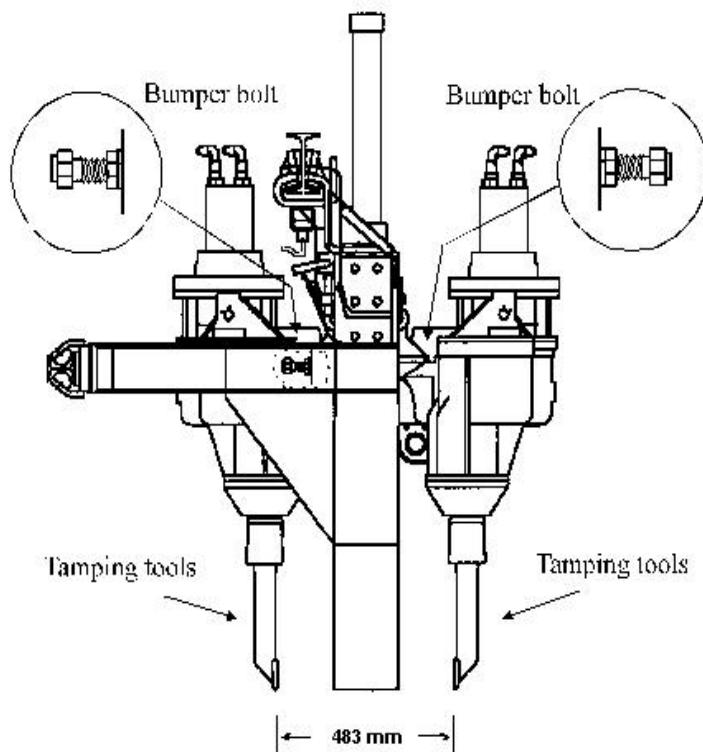

Figure 4-33
5. Place the **TRAVEL/WORK** switch, to the **TRAVEL** position then measure the distance between the tamping tools on both workheads. Refer to figure 4-33.